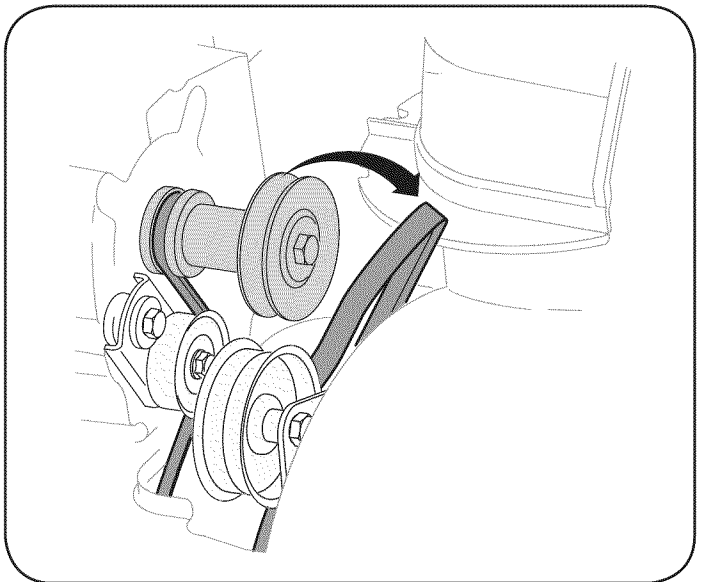

Figure 30
3. Roll the auger belt off the engine pulley. See Figure 30.